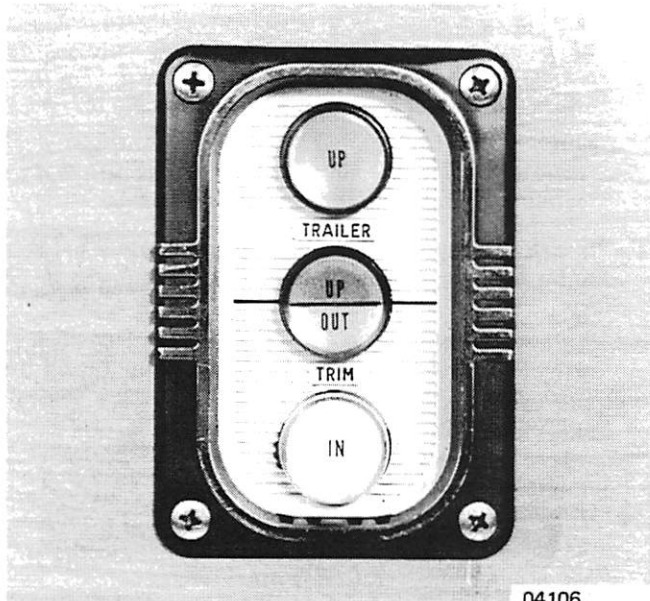

Figure 10. Switch Panel Installed
1. The outboard Power Trim is actuated by push button switches mounted in the trim control panel. (Figure 10, preceding)